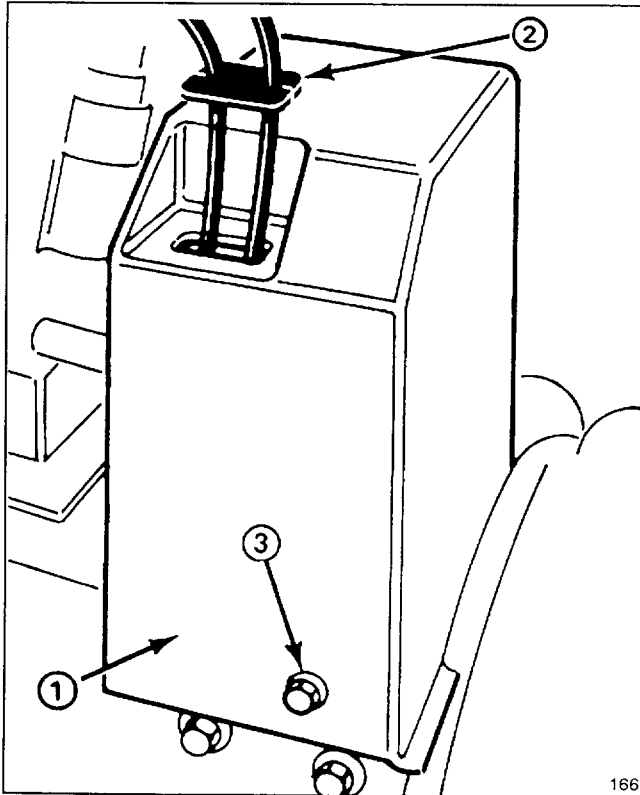

Figure 3
9. Mount upper belt cover to engine frame with (3) 1/4-20x1/2" lg. flange head capscrews (Fig. 3).
10. Slide cable cover onto cables and into hole in belt cover (Fig. 3).